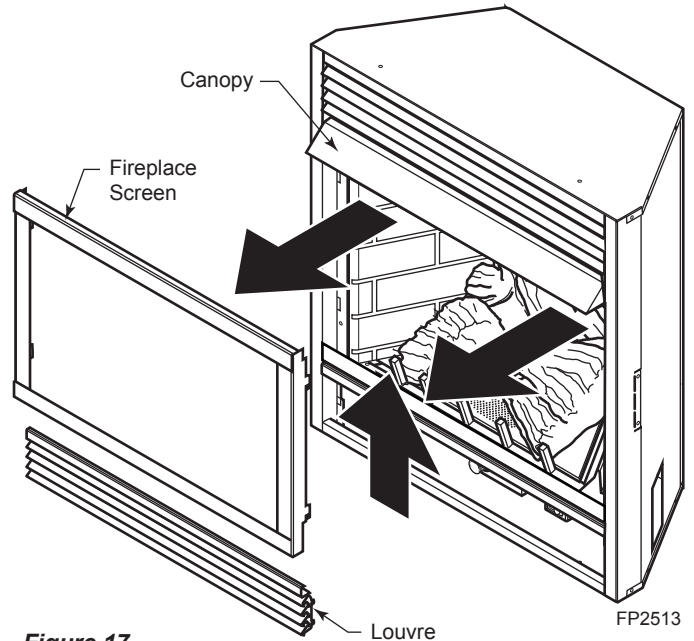

Figure 17 - Remove Fireplace Screen Panel
1. Remove bottom louver. *Figure 17*
2. Removing fireplace screen frame panel by pushing screen frame panel up and out. *Figure 17*